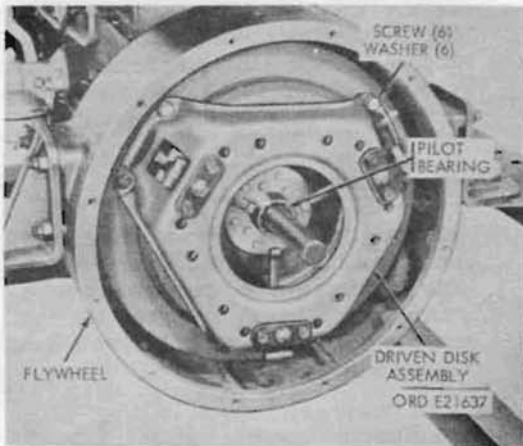
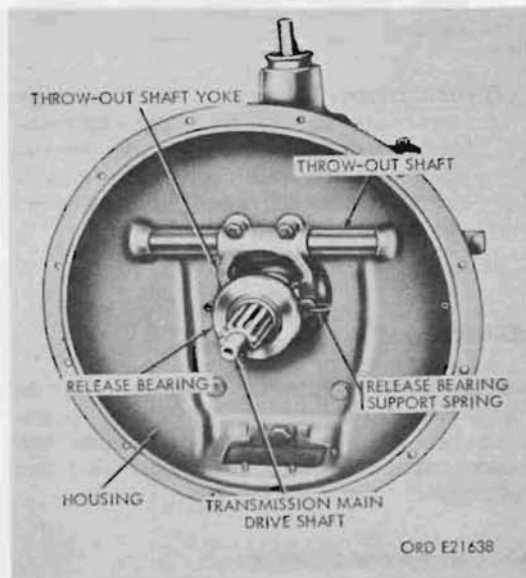

Figure 185. Clutch disk and pressure plate mechanism
Figure 186. Clutch release bearing and throwout shaft yoke
The clutch consists of two separate groupings of parts. The clutch disk and pressure plate mechanism is in the flywheel housing (fig. 185). The clutch release bearing and throwout shaft mechanism is in the clutch housing (fig. 186) and is attached to and considered part of the transmission (par. 153). The driven disk, when clamped between the flywheel and the pressure plate, transmits engine power from the flywheel to the transmission. The clutch is always in engaged
b. Removal (Fig. 185).
- (1) Remove the six screws and washers securing the clutch assembly to the flywheel.
- (2) Remove the driven disk from the shaft and flywheel assembly.
c. Installation (Fig. 185).
- (1) Position the alining arbor in the clutch pilot bearing.
- (2) Position the driven disk with the short extension of the hub toward the flywheel.
- (3) Install the pressure plate assembly to the flywheel with six washers and screws.
- (1) Remove transmission. Refer to paragraph 154.
- (2) Remove clutch release bearing. Remove the clutch release bearing support springs (fig. 186) from the clutch release bearing support, and slide the bearing and support from the sleeve
- (1) Install clutch throwout shaft yoke. Slide the clutch throwout shaft through the shaft opening in the clutch housing with the squared end of the shaft to the right when facing the clutch housing end of the transmission. Install the throwout shaft yoke on the end of the shaft in the housing, being sure the curved surfaces that will contact the release bearing support face away from the transmission. Slide the shaft through the other shaft opening in the housing, and install two yoke keys through the yoke slot into the keyways in the shaft. Secure the yoke keys in place and the yoke on the shaft with two hex-head screws and lockwashers.
- (2) Install clutch release bearing. Install the release bearing on the bearing support. Insert two support buttons in the holes in the bearing support. Slide the bearing and the support on the sleeve of the main drive shaft bearing cap. Install two release bearing support springs (fig. 186) in the throwout shaft yoke and the bearing support.